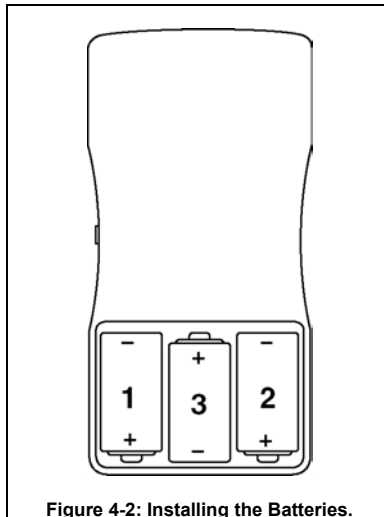

Figure 4-2: Installing the Batteries.
**NOTE:** It is easiest to install the batteries in the sequence shown in Figure 4.2.